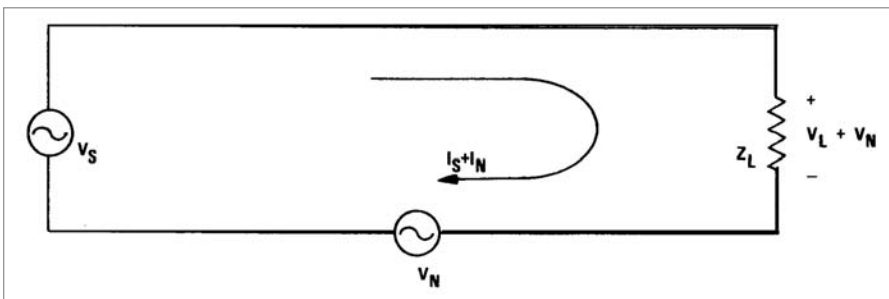

Figure 16
From that figure, it is easily seen that using the chassis or enclosure as an electrical return path would result in “ground” impedance being undefined and something other than the assumed zero (0) ohms. This impedance is comprised of two terms, the resistance (due to material and frequency) and inductance (due to geometry). Unfortunately, this would *not* be evident from looking at the schematic for the system and result equivalent circuit from this practice is shown in Figure 16.
Since the chassis conductive path is very small (compared to earth) – there may be significant path impedance (Figure 16), resulting in unexplained “ground shift” conditions.